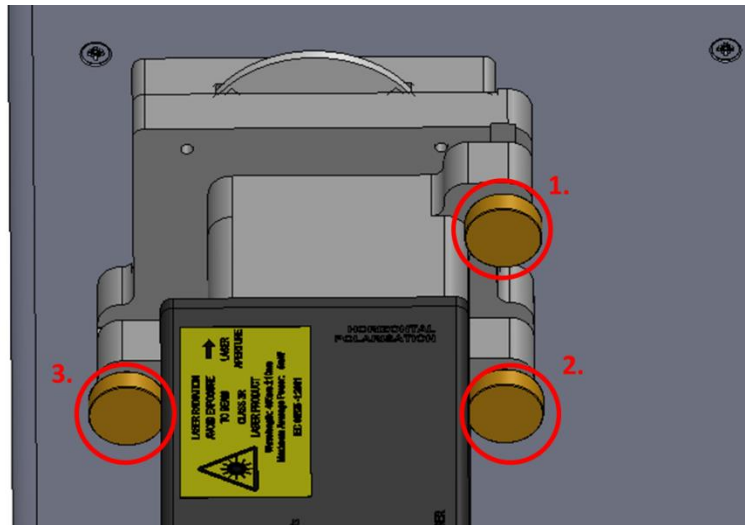

Figure 34: Thumbscrews on laser diode mount to tune beam alignment.
6. First adjust the three thumbscrews on the laser mount (Figure 34) to maximise the current displayed on the Current Meter. You will have to cycle around all screws at least twice to ensure that the signal